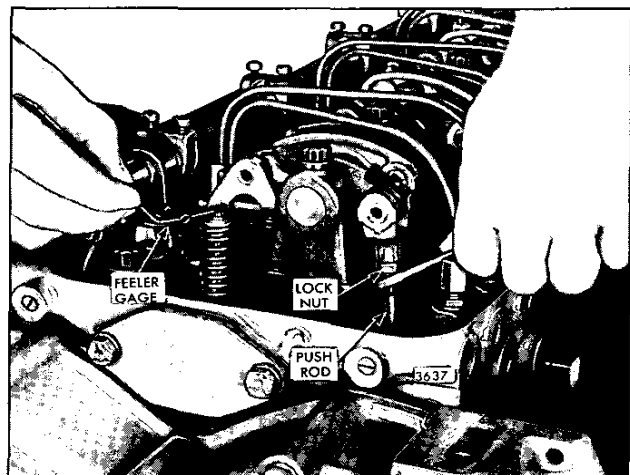

Fig. 2 - Adjusting Valve Clearance (Four Valve Head)
5. Place a .026" feeler gage (J 9708-01) between the end of one exhaust valve stem and the rocker arm bridge (Fig. 2). Adjust the push rod to obtain a smooth pull on the feeler gage.